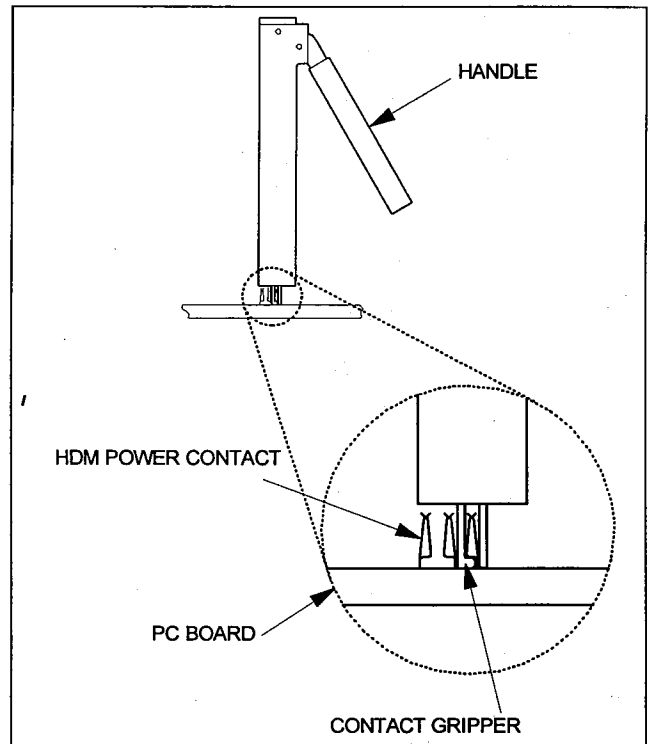

Fig. 2
- 1) Slide the contact gripper over the power contact to be removed. Be sure the tool is centered on contact, see Fig. 2.